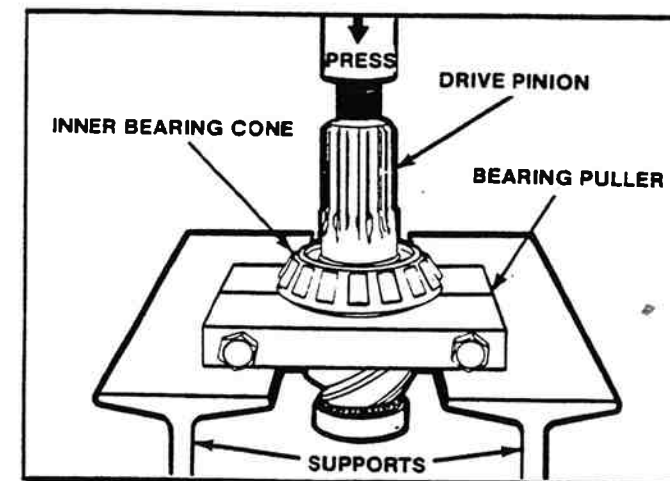

Figure 2-30. Removing Inner Bearing Cone.
5. If the pinion bearings need to be replaced, remove the inner bearing cone from the drive pinion with a press or bearing puller. The puller **must** fit under the inner race of the cone to remove the cone correctly without damage (Figure 2-30).